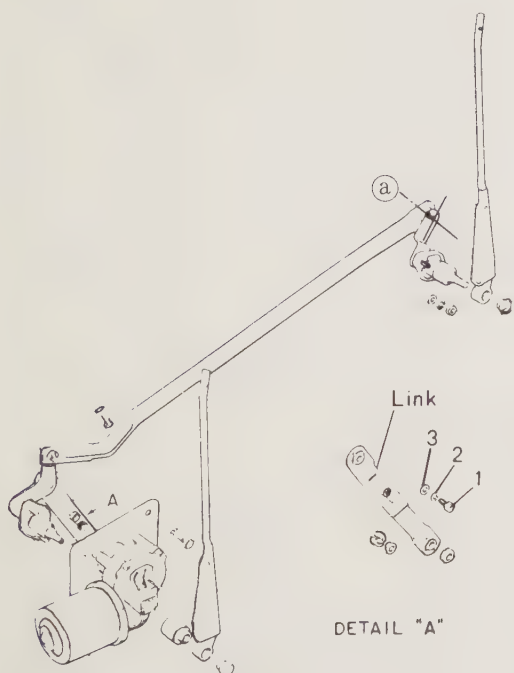

Fig. 10.25. Adjusting link mechanism
- 12 Refitting is the reverse of the removal sequence. If necessary adjust the link by loosening the flange bolts so that the center, 'a' in Fig. 10.25 is aligned with the body center line.